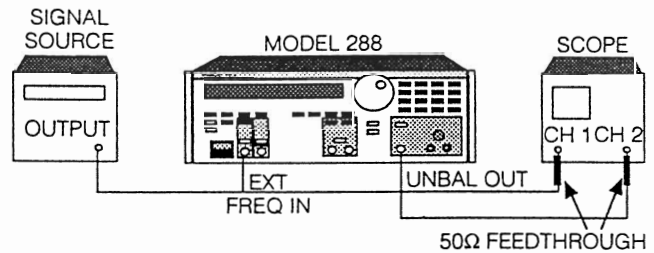

Figure 5-6. Adjust Phase Setup
1. Connect the test equipment as shown in figure 5-6.